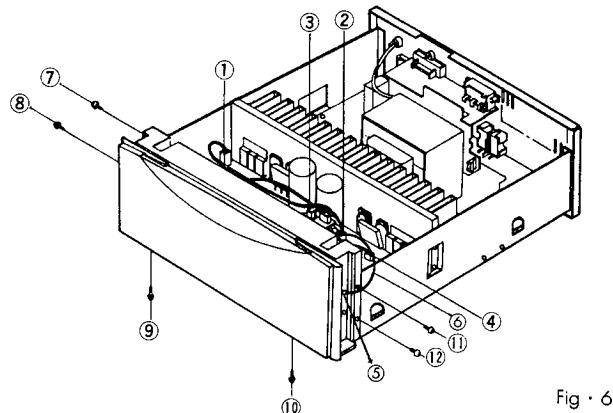

Fig. 6
1. Remove connectors ① to ④ in Fig. 6
2. Remove screws ⑤, and then untie the ground wire ⑥ in Fig. 6
3. Remove screws ⑦ to ⑬, and then remove the front panel assembly by pulling it toward you gently.
⑦ PCB-②,⑦ (Control PCB) Removal.
1. Remove the front panel assembly from the unit in Fig. 6 (Refer to step ⑥)
2. Remove screw ①, and then remove the pcb-3 ② in Fig. 6
3. Remove screws ③ to ⑥, and then remove the pcb-4 ⑦ in Fig. 6